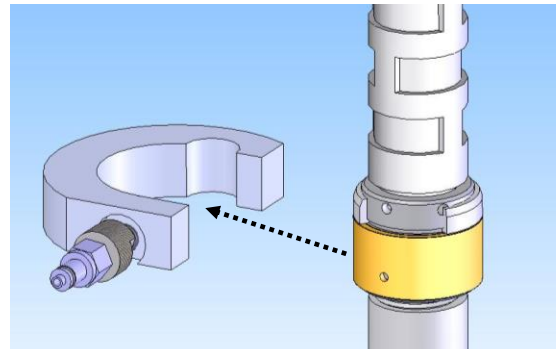

Figure 8: Remove the injection adapter and complete termination.
- l. Remove the injection adapter and complete the termination (Figure 8).